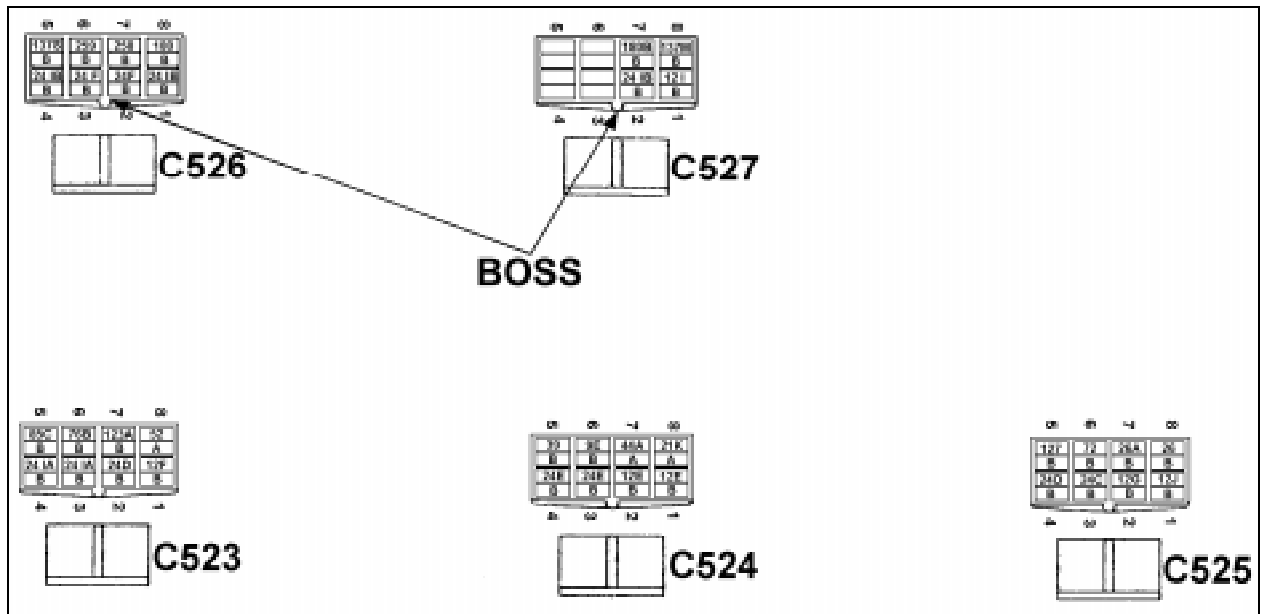

FIGURE 7: CONNECTORS POSITIONING
3. Ensure that wiring between connectors and fuse block connectors is in accordance with fig. 7 and 9.
1. Using boss as a reference, position female connectors (Prévost # 562646) that were attached to fuse block male connectors so that they are facing towards you (refer to fig. 7 and 9).
- If found to be unsatisfactory, reposition wiring as per figures 7 and 9. Reconnect male to female connectors.